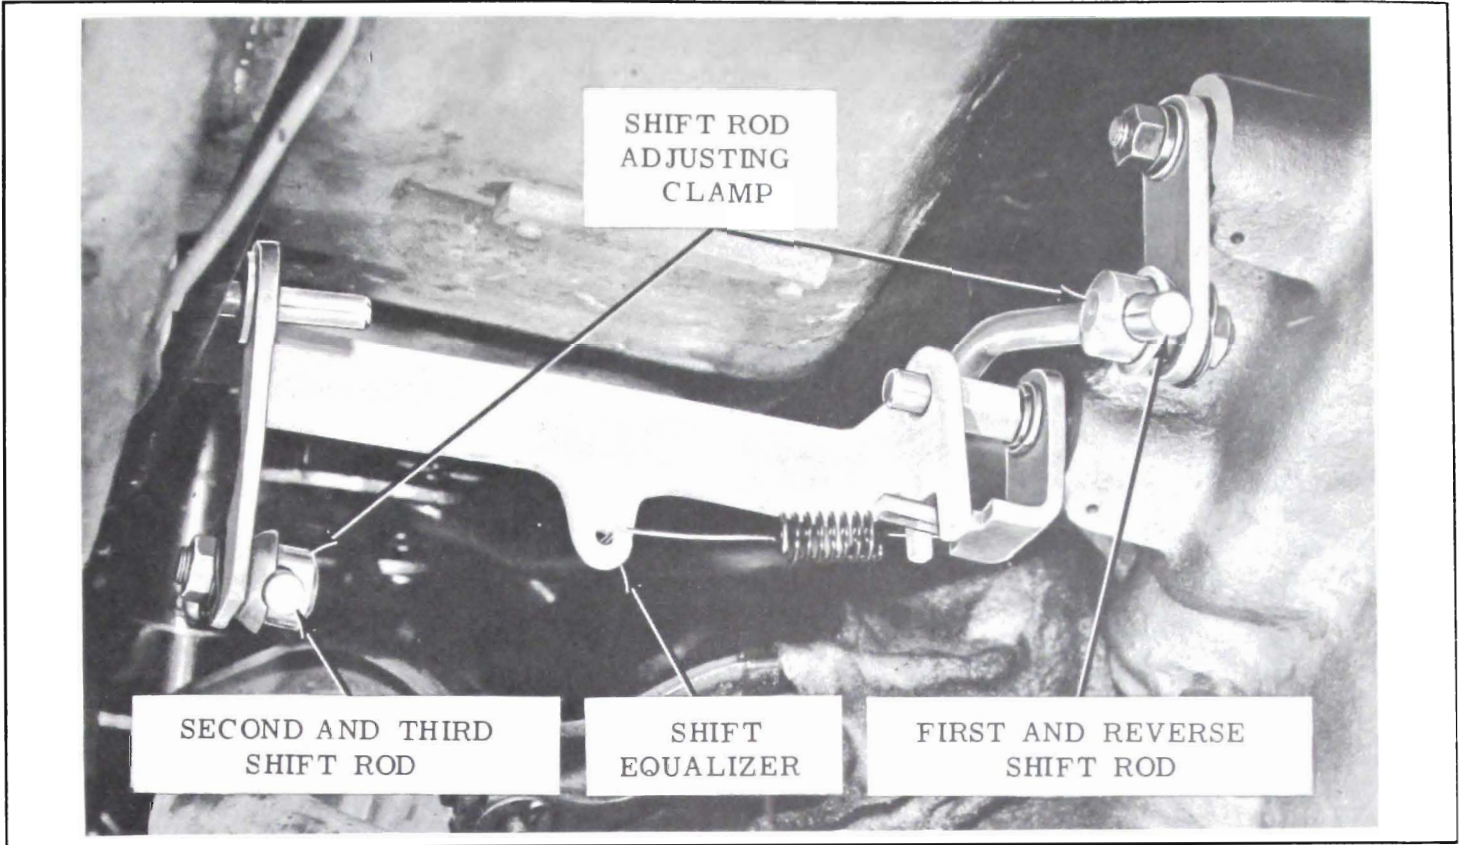

Figure 4-14—Loosening Shift Rod Adjusting Clamps
3. Loosen shift rod adjusting clamps. See Figure 4-14.